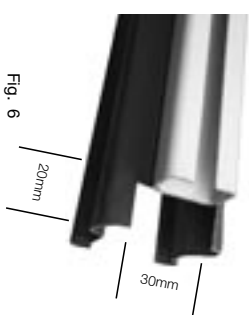

Fig. 6
6. At each end of the top fence tracks notch out an area 30mm wide x 20mm long using tin snips or an angle grinder as shown in Fig. 6.